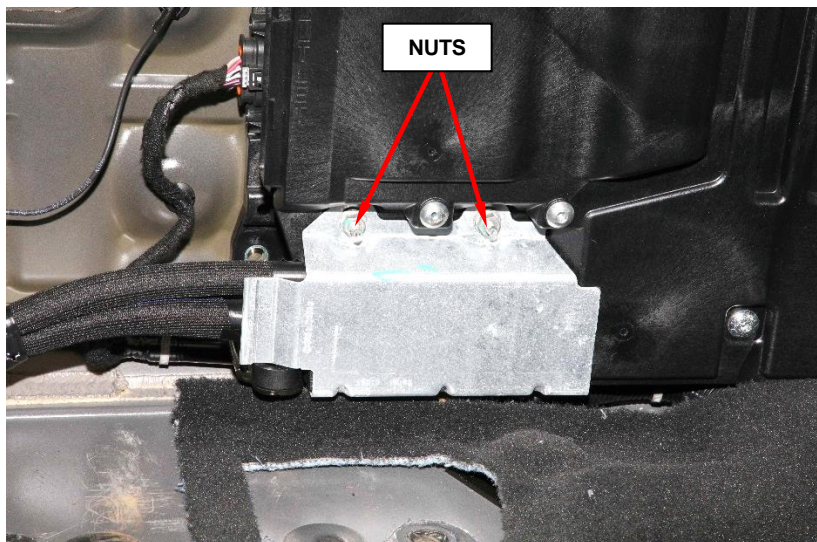

Figure 9 – Wiring Shield
- Remove the two nuts that secure the wiring shield and remove the shield (Figure 9).
- Install the wiring shield and securely tighten the nuts (Figure 9).
10. Remove the two nuts that secure the wiring shield and remove the shield (Figure 9).
12. Install the wiring shield and securely tighten the nuts (Figure 9).